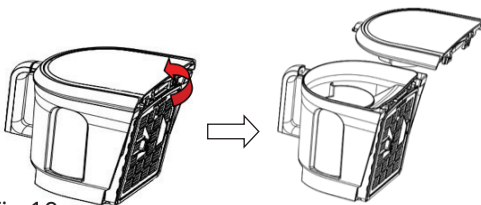
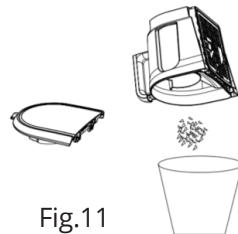

Fig.10
Fig.11
3. As seen in fig. 10 & fig.11, by pressing on the release button, empty your dust collector into your waste disposal bin.